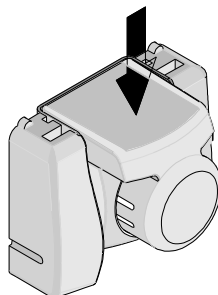

Figure 7B
5. Press the red insert down as far as it will go as shown in Figure 7B.
6. Holding onto the lower part of the locator with your thumb and index finger, insert the locators top hooks (2) into the hand tool top slots.